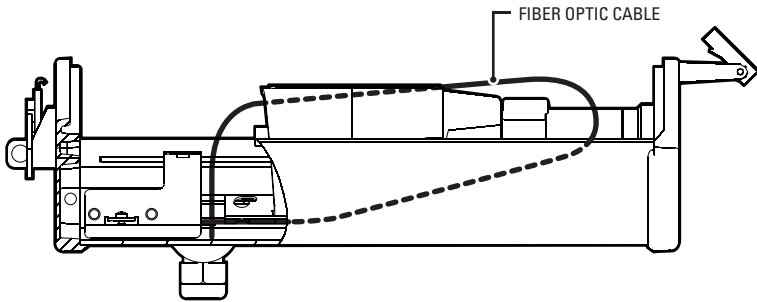

Figure 12. Routing Fiber Optic Cable in EH3512/EH3515 Enclosure
- (1) Carefully loop the cable around the camera (refer to Figure 12).
- (2) Connect the cable to the fiber optic connector on the transmitter.